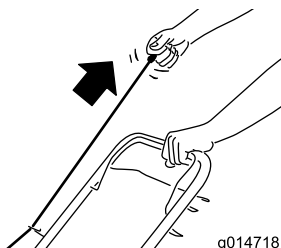

Figure 12
2. Pull recoil-start handle (Figure 12).